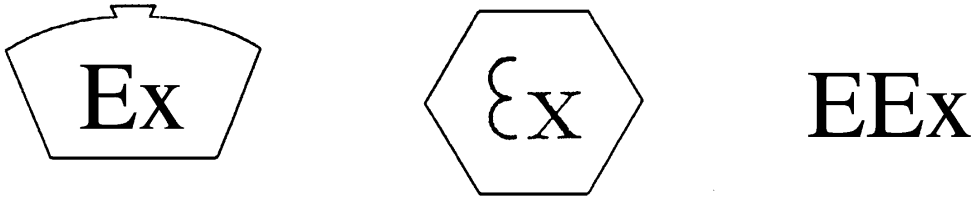

Figure 4.28 Flameproof equipment markings.
- PVC armoured cables terminated into accessories with approved flameproof glands or any other wiring system which is approved by the British Standard. All certified flameproof enclosures will be marked **Ex**, indicating that they are suitable for potentially explosive situations, or **EEEx**, where equipment is certified to the harmonized European Standard. All the equipment used in a flameproof installation must carry the appropriate markings, as shown in Fig. 4.28 if the integrity of the wiring system is to be maintained. Flammable and explosive installations are to be found in the petroleum and chemical industries, which are classified as group II industries. Mining is classified as group I and receives special consideration from the Mining Regulations because of the extreme hazards of working underground. Petrol filling pumps must be wired and controlled by flameproof equipment to meet the requirements of the Petroleum Regulation Act 1928 and 1936 and any local licensing laws concerning the keeping and dispensing of petroleum spirit.